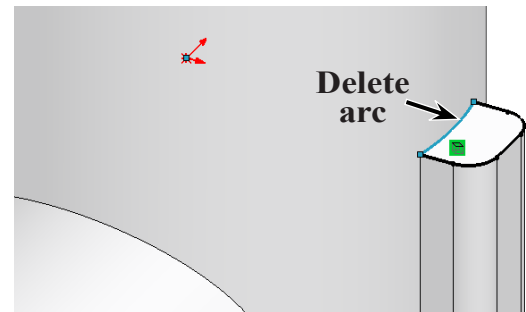

Fig. 30
Step 3. **Delete inside converted arc**, **Fig. 30**.